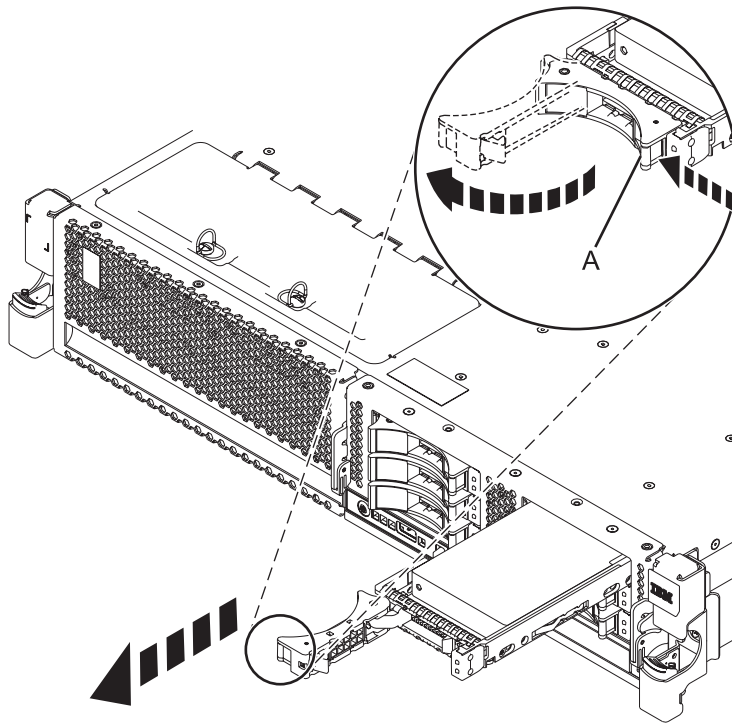

Figure 21. Removing a disk drive from the system
- a. When the identify LED flashes, unlock the drive handle by squeezing it and pulling it out toward you, as shown in Figure 21 on page 35.